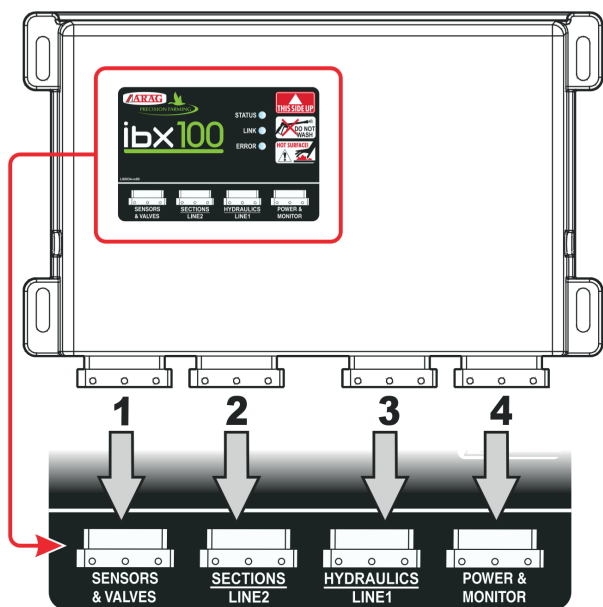
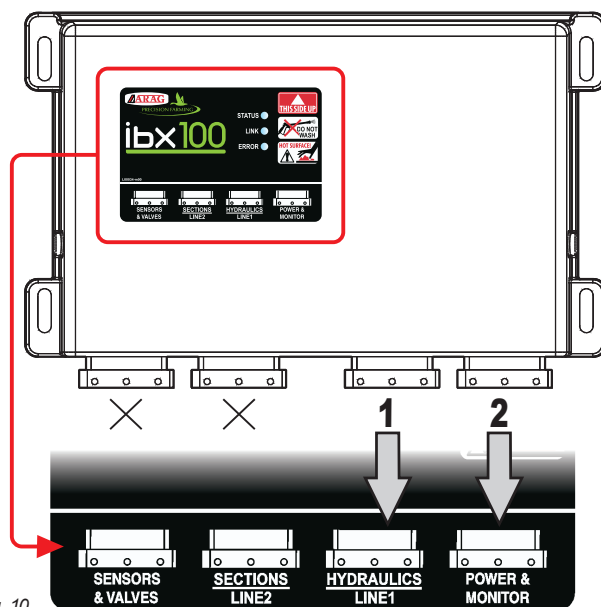

Fig. 9
Fig. 10
**WARNING: DO NOT CONNECT ISOBUS CONNECTOR (Fig. 7, Fig. 8, Fig. 9 e Fig. 10). THIS CONNECTION MUST BE CARRIED OUT LATER, ONLY AFTER INSTALLING ALL THE COMPONENTS (Chap. 7 ISOBUS system cable connection).**